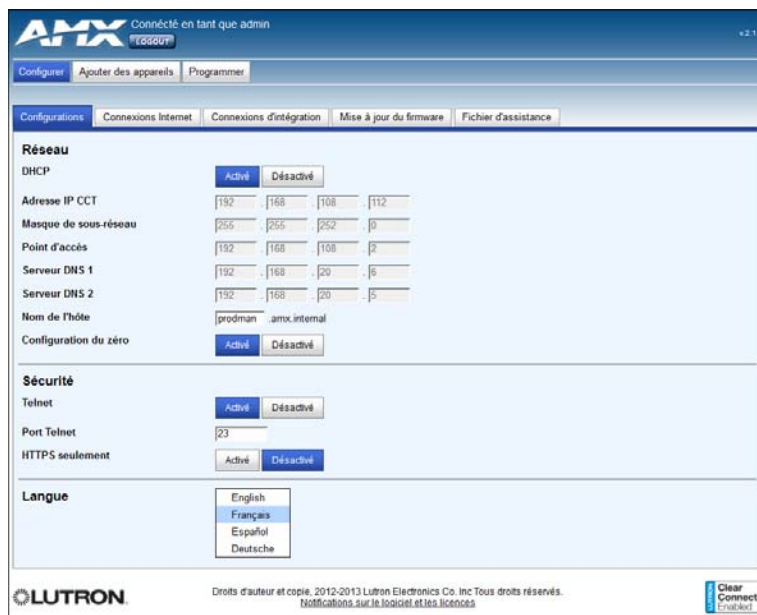

FIG. 13 Web interface in French
3. The Web Interface pages will now display information in the chosen language (FIG. 13). You may switch back to any of the four languages at any time.